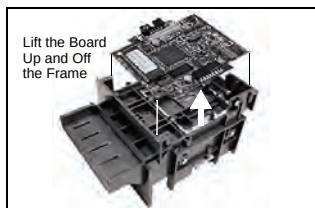

Figure 3-6 CPU Board Removal
9. Lift the upper circuit board up and out of the frame (See Figure 3-6).